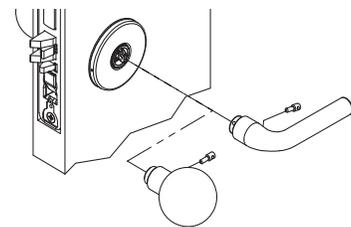

Figure 18
4. Install inside lever or knob by inserting dowel screw. (Figure 18)